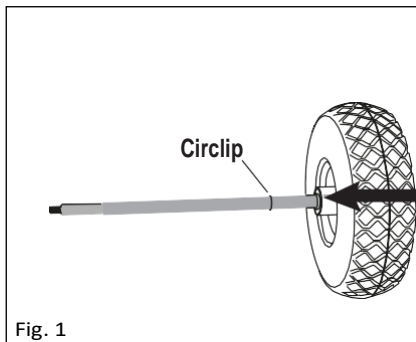

Fig. 1
1. Slide a wheel (12) with valve stem facing out onto the axle (16) (fig. 1).